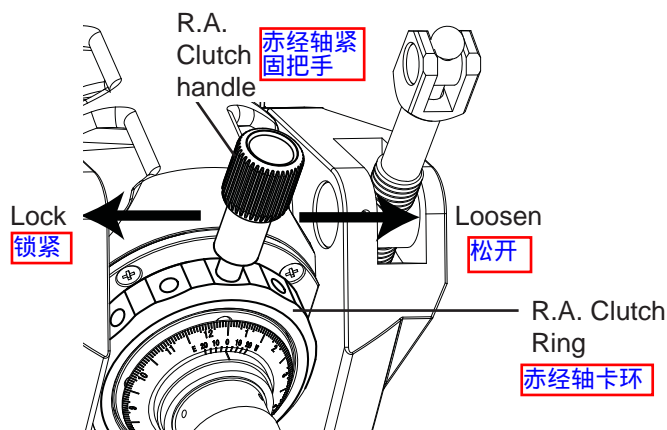

Fig. 2.1a
1. Release the R.A. Clutch to manually rotate the R.A. Axis. (Fig. 2.1a)
2. The R.A. Clutch handle can be removed and re-positioned on the clutch ring for adjustment of the tightening strength. (Fig. 2.1a) 2. 可以通过拆卸和复位赤经轴卡环上的赤经轴紧固把手来调节拧紧的力度（见图2.1a）